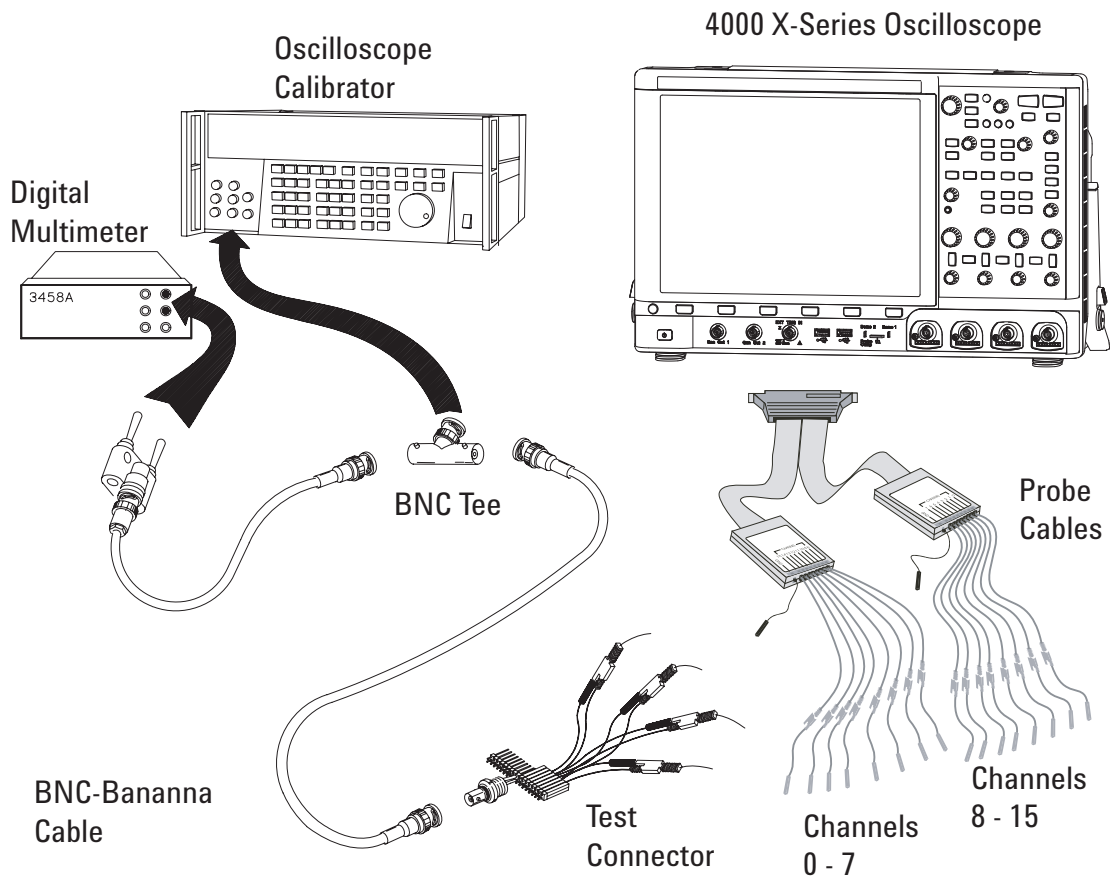

Figure 2 Setting Up Equipment for Digital Channel Threshold Accuracy Test
- 3** Use the 8-by-2 test connector and the BNC cable assembly to connect digital channels D0-D7 to one side of the BNC Tee. Then connect the D0-D7 ground lead to the ground side of the 8-by-2 connector. See Figure 2.
- 5 Connect the BNC Tee to the Channel 1 output of the calibrator as shown in Figure 2.